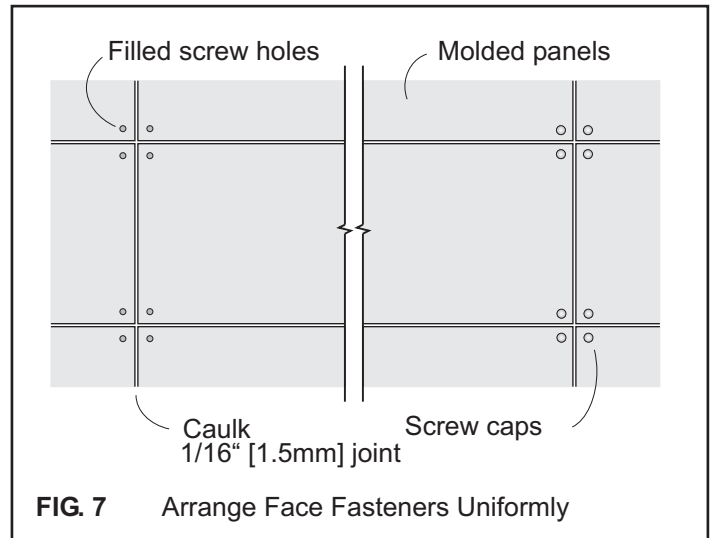

FIG. 7 Arrange Face Fasteners Uniformly
2) For panels that are to be attached with face fasteners, a uniform hole placement pattern is recommended for aesthetic purposes. Refer to Fig. 7. A plywood substrate is recommended for this purpose to allow for screw holes to be placed in a uniform pattern with respect to the panels without concern for the location of the substrate framing members.